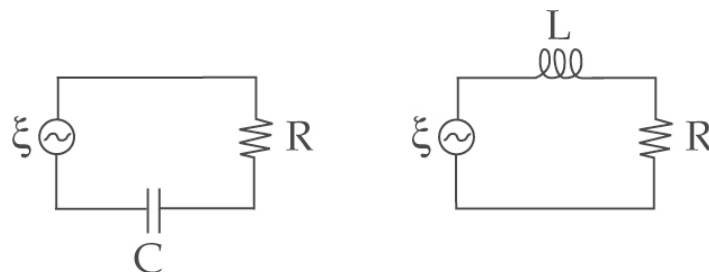

Figure 1
- Connect the circuit according to Fig. 1 (You have to do both circuits one after the other). For the LR circuit, start with $L = 500$ mH, and $R = 100$ Ω . For the RC circuit, start with $R = 10$ k Ω and $C = 0.5$ μ F.
- Connect one Voltage Sensor to Analog Channel A and one to Analog Channel B. The banana plugs at the end of the Voltage Sensor A should be connected across the resistor. Voltage Sensor B should similarly be connected across the inductor or capacitor. The voltage measured at Analog Channel A is related to the current through the resistor by $I = \frac{V_R}{R}$. The amplitudes of the voltage measured in Analog Channel B will be related to the amplitude of the current according to equation (2) for the RL circuit, or (3) for the RC circuit.